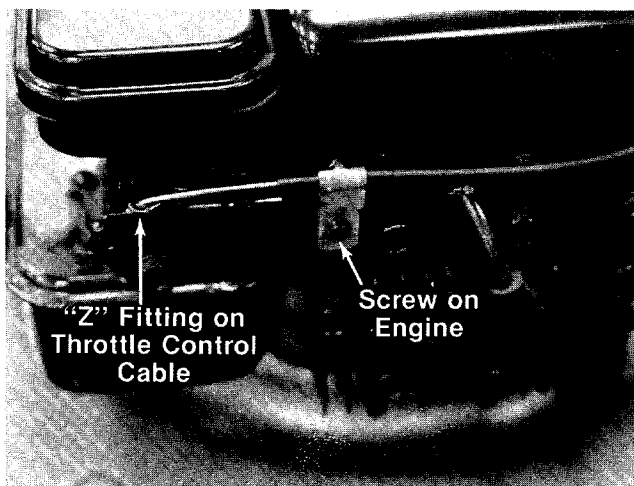

FIGURE 28.
8. Disconnect the throttle control cable from the engine by loosening screw on engine and disconnecting the "Z" fitting. See figure 28.